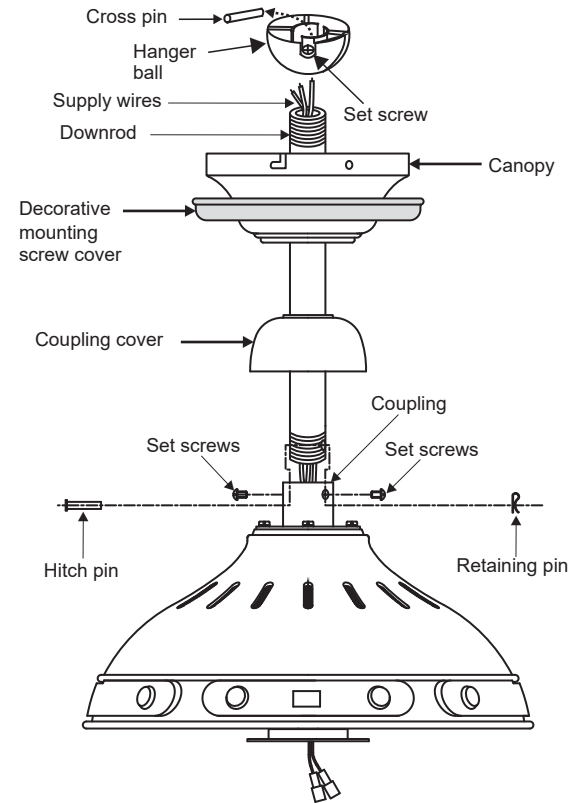

Fig. 6
Step 1. Remove the hanger ball from the downrod assembly by loosening the set screw, removing the cross pin and sliding the ball off the rod. **(Fig. 6)**
Step 2. Loosen the two set screws and remove the hitch pin and retaining clip from the coupling on top of the motor assembly. **(Fig. 6)**
Next, replace the hitch pin and retaining clip. Tighten both set screws. **(Fig. 6)**
Thread the hanger ball onto the downrod, insert the cross pin through the downrod and tighten. Now tighten the set screw. **(Fig. 6)**